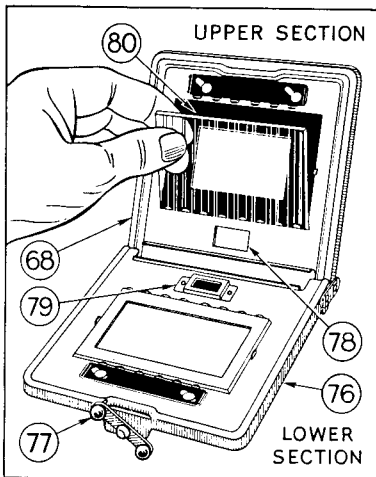

Figure 11
side down, on the lower glass plate. If your negative is larger than the opening in the carrier, $2\frac{1}{4}'' \times 3\frac{1}{4}''$, place it so that the portion which you wish to enlarge is framed by the opening. If your negative is smaller than the opening, a mask (80) with a smaller opening must be used to frame it. The proper location of this mask is UNDER the upper glass pressure plate. See Figure 11.